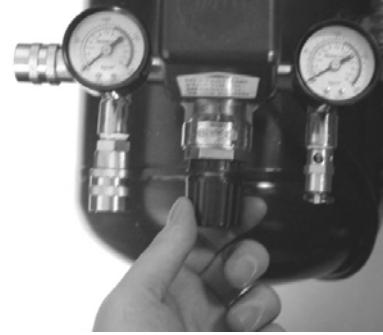

FIG. 2
4. Set the pressure regulator to the required working pressure. (see FIG. 2)